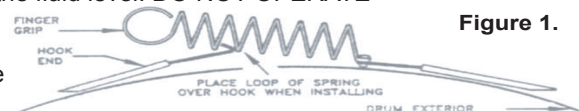

Figure 1.
- Wrap and clamp (see fig.1) band heater around drum.
- Place a loop of the spring over the hook (see fig.1). Be sure the heater has good contact with the drum.
- The re-circulator comes fully assembled and includes two (2) 5/8" hose clamps for installation.
- Cut the hose in a location that will allow the easy installation of the re-circulator and the two (2) 5/8" hose clamps.
- On the hose section that was just cut, slide one (1) hose clamp over each cut end and insert the 3/8" hose barbs on the tee into the cut end sections of the hose (See fig.1).
- The injector has two adjustment knobs (fig.1) that change the water flow and the injection flow. This allows you to use the injector with most types of power washers.